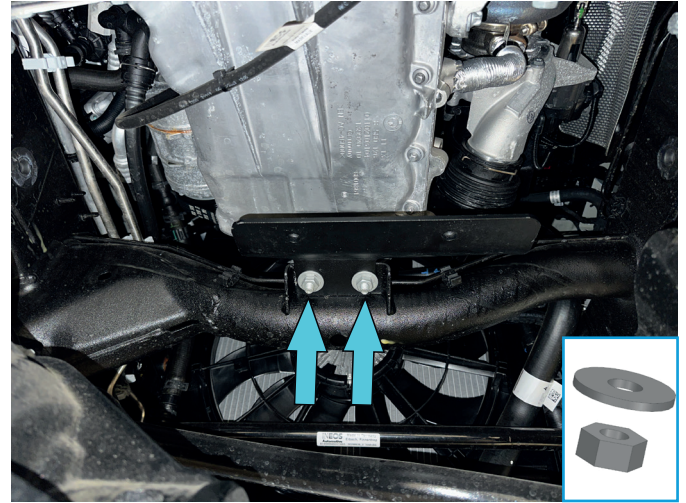

Fig. 2
2. Fix bracket (item 3) to insert bolts using nuts M10 and washers 10 (item F, E) (fig. 2).